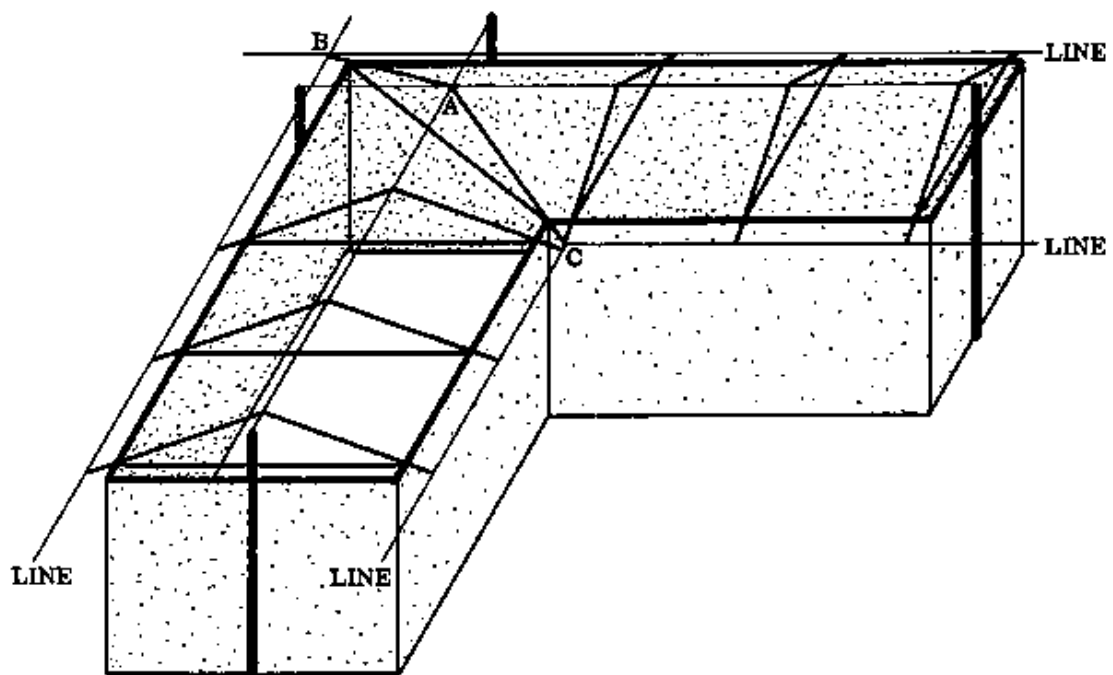

Fig. 2
- Erect the ordinary trusses according to the lines in their correct places (Fig. 2). Refer to the section on erecting a gable roof, page 191.
- Fix lines parallel to the walls along the tops of these purlins, at eave height on both sides of the roof (Fig. 2).
- Set the ridge lines higher, by the amount of the purlin thickness (Fig. 2).
- Now you will have three points where the lines cross. These are: point A at the ridge; point B at eave height, and point C on the other side at eave height (Fig. 2). These points mark the outer surfaces of the hip and valley truss.